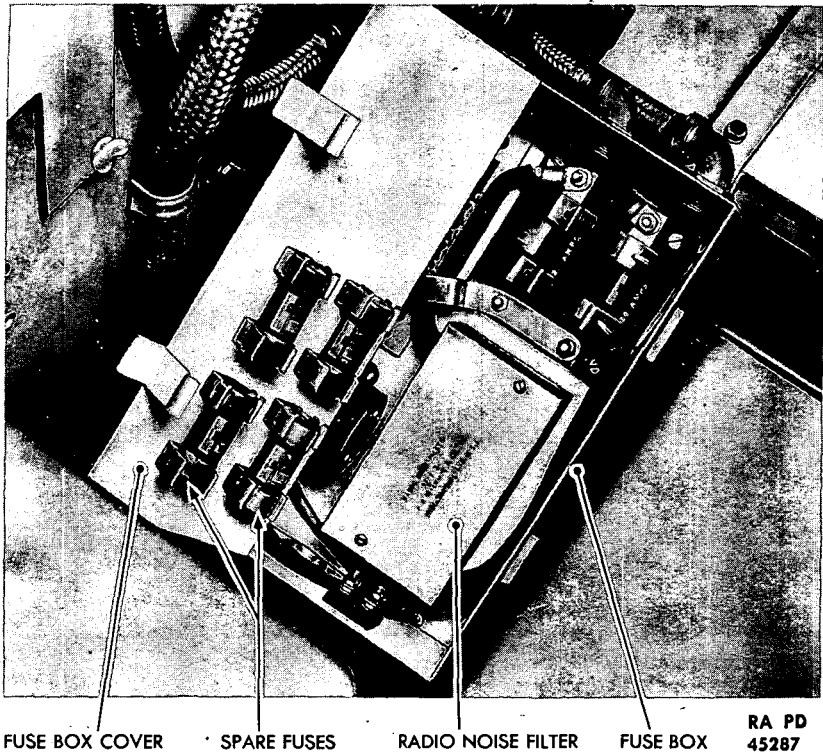

Figure 44—Generator and Auxiliary Generator Voltage Regulators Fuse Box
a. A fuse box, designed to prevent overloading of the voltage regulator circuits, is located on a slant on the floor of the left rear of the driving compartment. In the event of an overload or short circuit, fuses burn through, breaking the circuits. To install new fuses, open the fuse box door, remove the burned-out fuse and install new fuses. Spare fuses are carried in clips on the fuse box cover (fig. 44).